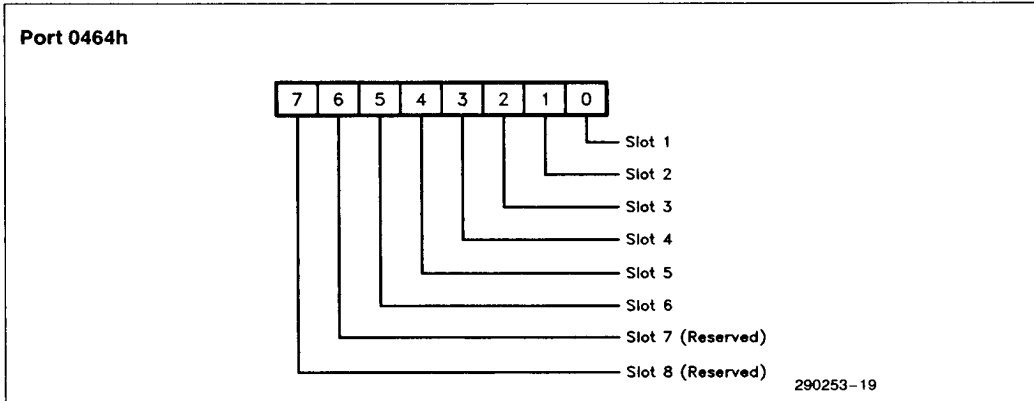

Figure 4-2. EISA Bus Master Status Latch
In order to simplify testing of EISA bus master operations, a CPU readable status latch is included which contains information about which EISA bus master most recently had control of the bus. This latch is located at port address 0464h and is read only. (See Figure 4-2.) A read value of (0) indicates that the slot was most recently granted the bus.